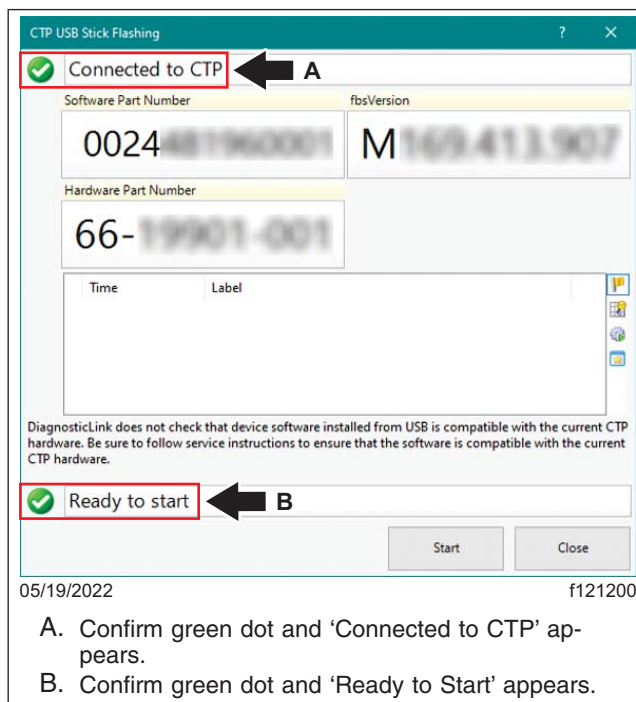

Fig. 10, CTP USB Stick Flashing Window
11. The 'CTP USB Stick Flashing' window appears. Verify that a green dot appears beside 'Connected to CTP' on the top-left, and beside 'Ready to start' at the bottom. See **Fig. 10**.
15. After the USB stick and adaptor are connected to the CTP, select the 'Start' button in the 'CTP USB Stick Flashing' window to begin the flashing process. See Fig. 10. Make a note of the time when the flashing process starts.